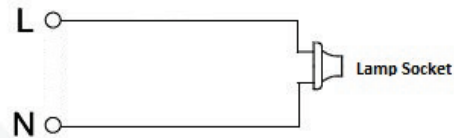

Fig. 2: Create Direct Hot & Neutral Connections from Mains to Lamp
- Create a direct connection from the incoming hot (L) and neutral (N) leads to the lamp-socket connectors as shown in Fig. 2. Splice in extra wire of the appropriate gauge, if needed.